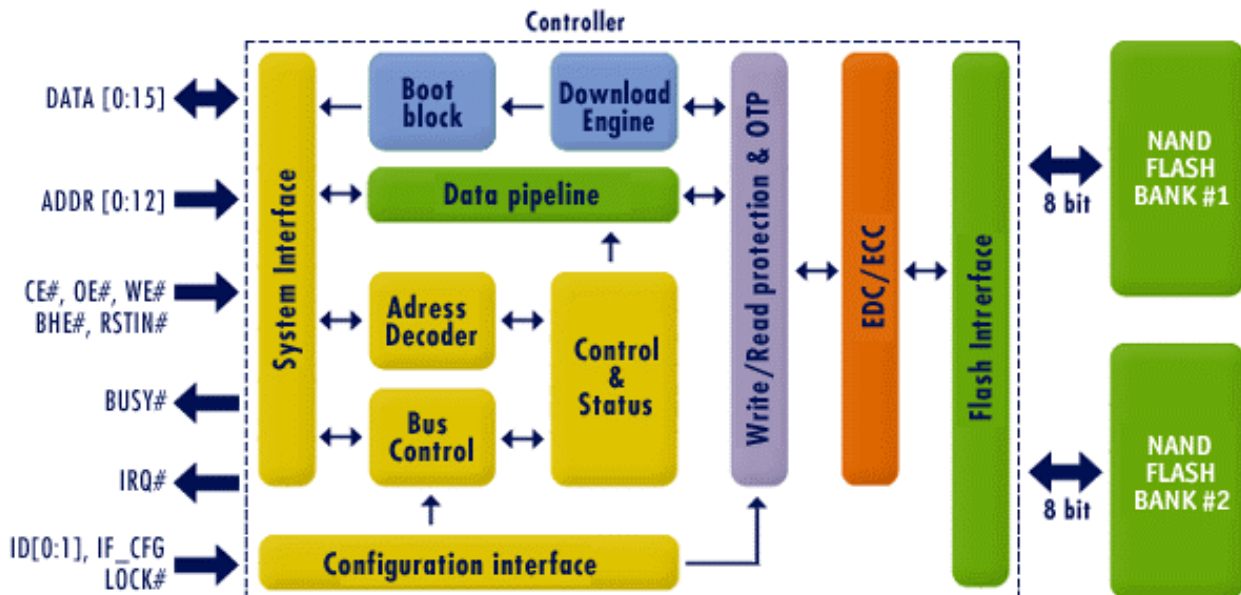
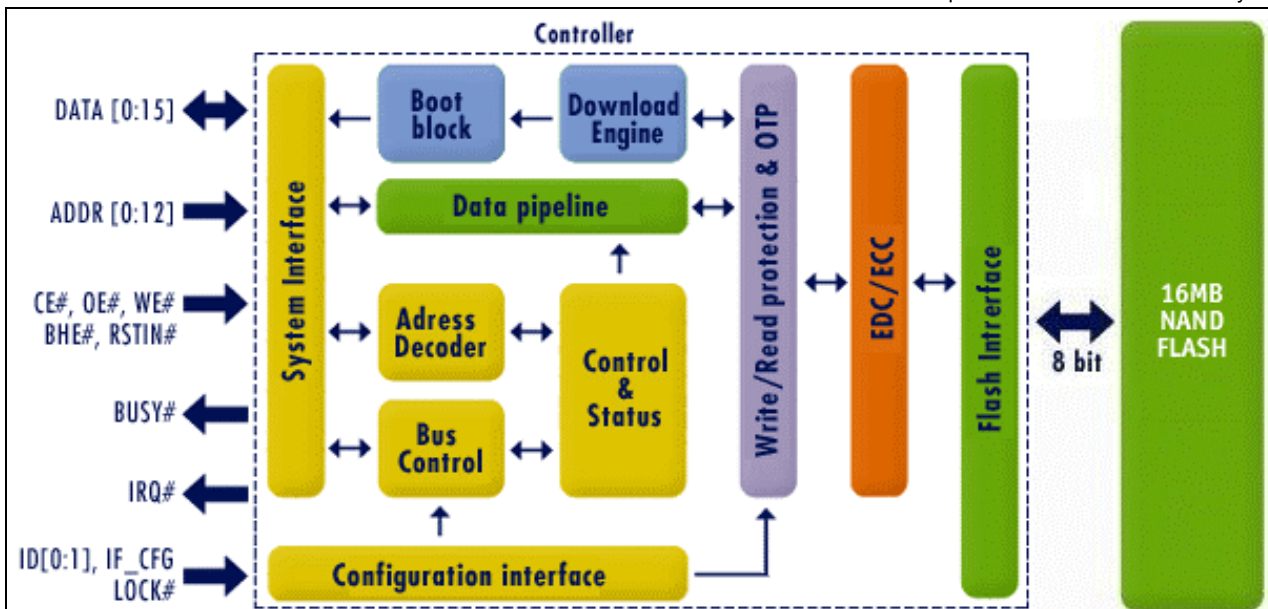

Figure 7: Standard Interface Simplified Block Diagram, 32/64MB Devices
Figure 8: Standard Interface Simplified Block Diagram, 16MB Devices
DiskOnChip Millennium Plus consists of the following major functional blocks, as shown in Figure 7 and Figure 8.
- **Programmable Boot Block** with XIP capability enhanced with a **Download Engine (DE)** for system initialization capability
- **Flash Interface** whose architecture depends on the capacity: 32MB (256Mb) and 64MB² (512Mb) implements a unique interleaved, dual bank architecture of two embedded 16MB NAND flash arrays (Figure 7); 16MB uses a single NAND flash array (Figure 8).